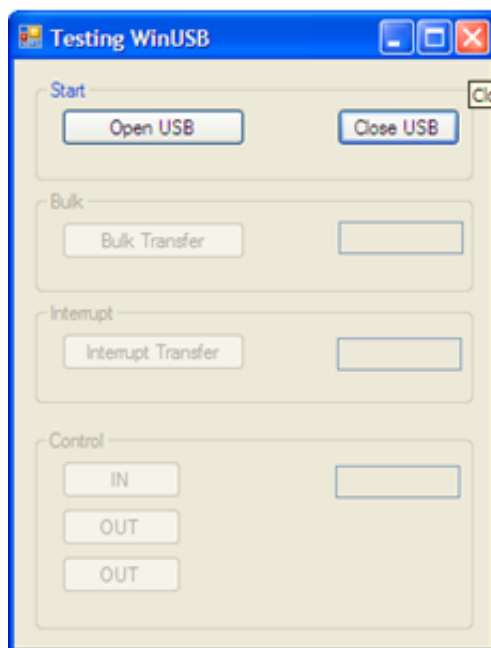

Figure 1. C# application
2. Open {INSTALLATION DIR}\WinUSBExample in C#\WinUSBExample\bin\Release\WinUSBExample.exe. The following GUI is shown in Figure 1. FSLwinusb_v2.dll file must be in the same folder of the executable file.